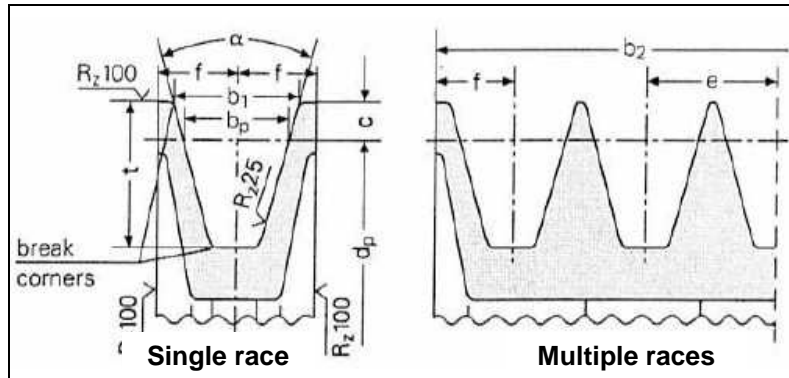

fig. 8
- Use pulleys for v-belts with race dimensions prescribed / recommended by the belt Manufacturer. Should no indications be supplied, please see fig. 8 and the table in fig. 9.